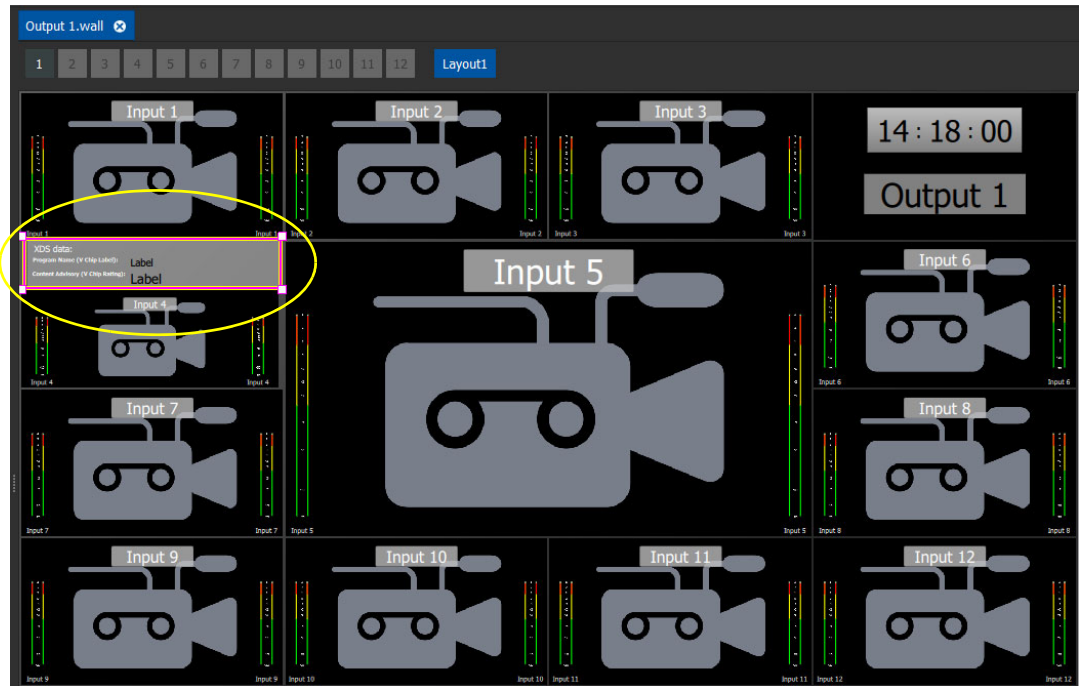

Fig. 7-5: XDS Labels Tile on Wall
- 14 Open a **Wall** and drag on the new tile. See Figure 7-5.